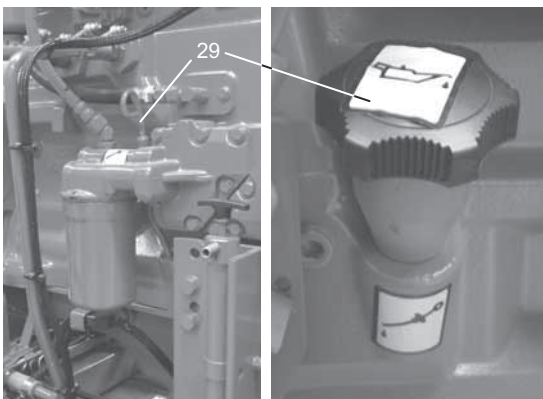

Fig. 43 Arrangement of oil dipstick
To read the oil level, pull out the oil dipstick (JU4H, JU6H and JX6H), or unscrew it (JW6H) (fig. 43, pos. 29). Oil level measurements are to be taken when the engine is cold. The oil level must be between the minimum and maximum marks on the oil dipstick. See figures 44 and 45.